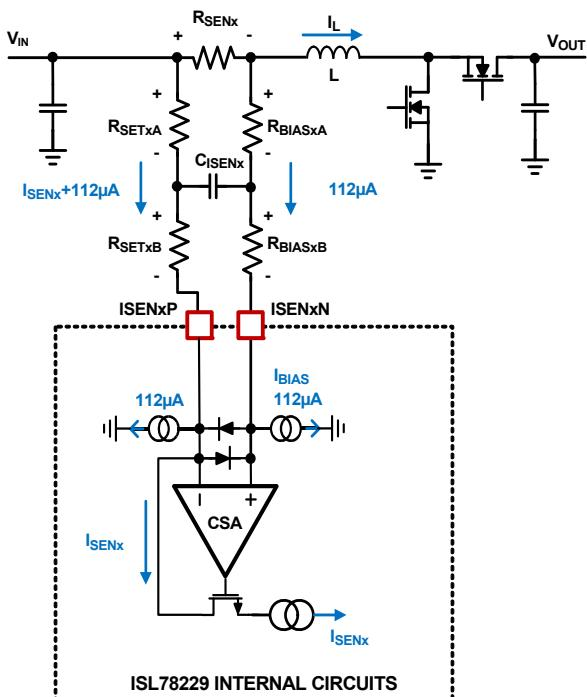

FIGURE 69. CURRENT SENSING BLOCK DIAGRAM
The ISL78229 peak current control architecture senses the inductor current continuously for fast response. A sense resistor is placed in series with the power inductor for each phase, and the ISL78229 Current Sense Amplifiers (CSA) continuously sense the respective inductor current as shown in Figure 69 on page 32 by sensing the voltage signal across the sense resistor  $R_{SENx}$  (where "x" indicates the specific phase number and same note applied throughout this document). The sensed current for each active phase is used for peak current mode control loop, phase current balance, individual phase cycle-by-cycle peak current limiting (OC1), individual phase overcurrent fault protection (OC2), input average Constant Current (CC) control and average overcurrent protection (OC\_AVG), diode emulation, and phase drop control. The internal circuitry shown in Figure 69 represents a single phase. This circuitry is repeated for each phase.
The RC network between  $R_{SENx}$  and ISENxP/N pins as shown in Figure 69 is the recommended configuration. The ISENxP pin should be connected to the positive potential of the  $R_{SEN\_CHx}$  through resistor  $R_{SETx}$ , where in Figure 69  $R_{SETx}$  is composed by  $R_{SETxA}$  plus  $R_{SETxB}$ .  $R_{SET}$  is used to set the current sense gain externally.
Because there is a 112 $\mu$ A bias current sinking to each of the ISENxP and ISENxN pins,  $R_{BIASx}$  with the same value to  $R_{SETx}$  should be placed between the ISENxN pin to the low potential of the  $R_{SENx}$ , where in Figure 69  $R_{BIASx}$  is composed by  $R_{BIASxA}$  plus  $R_{BIASxB}$ .
It is recommended to have  $R_{SETxA} = R_{BIASxA}$  and  $R_{SETxB} = R_{BIASxB}$ , and insert a capacitor ( $C_{ISENx}$ ) between them as shown in Figure 69. This forms a symmetric noise filter for the small current sense signals. The differential filtering time constant equals to  $(R_{SETxA} + R_{BIASxA}) * C_{ISENx}$ . This time constant is typically selected in range of tens of ns depending on the actual noise levels.